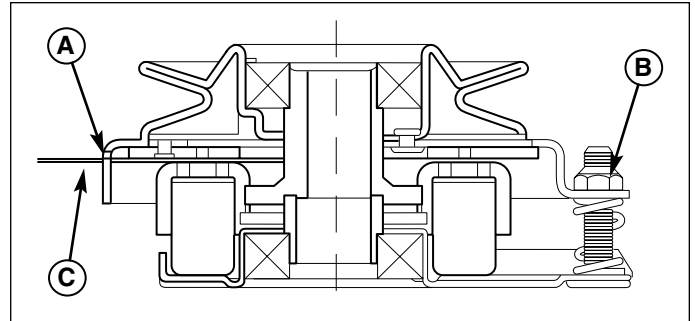

Figure 26. Adjust PTO Clutch
3. Insert a .016"-.018" (0,40-0,45mm) feeler gauge (C) through each window, positioning the gauge between the rotor face and the armature face as shown in Figure 26.